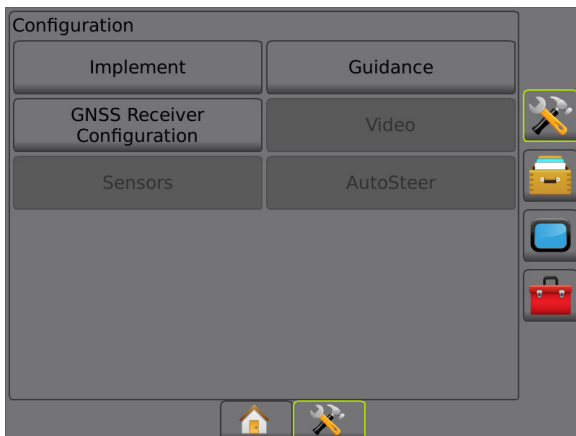

Figure 11 - Configuration screen
2. Press the right  button to access the Configuration tab, Figure 11.